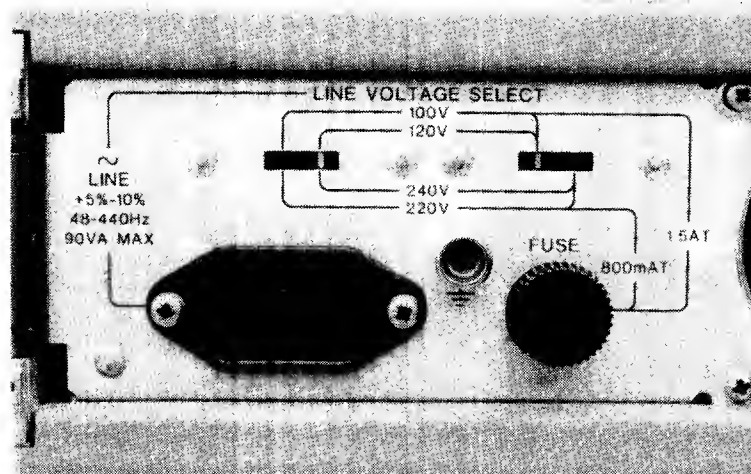

Figure 2-1. Line Voltage Selection Switches
- b. Using a blade-type screwdriver, position rear-panel LINE VOLTAGE SELECT switches for desired ac input. (Figure 2-1 shows switches set for 120 Vac operation.)